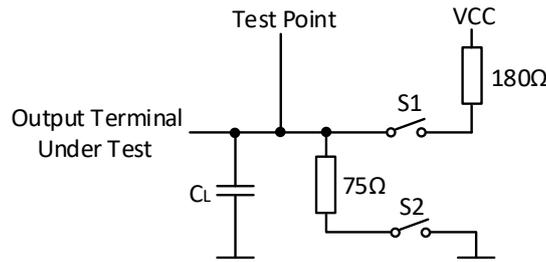

Figure 1. Switch Characteristic Test Circuit
3. Test circuit is shown in figure 1. C_L includes parasitic capacitance of prod and socket. Input signal is from waveform generator, and it meets the following demands : $PRR \leq 1MHz, Z_O \approx 50\Omega, t_r \leq 15ns, t_f \leq 6ns$; Each enable terminal is tested alone.